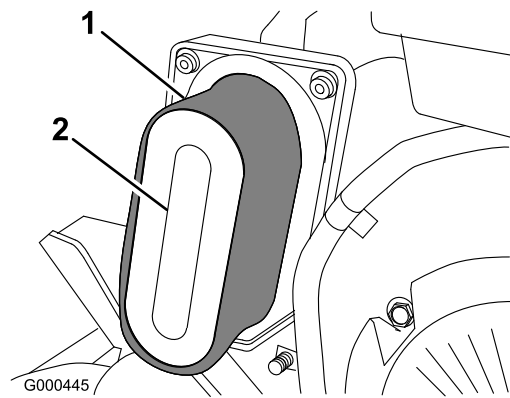

Figure 25
3. If foam element is dirty, remove it from paper element (Figure 25). Clean thoroughly.